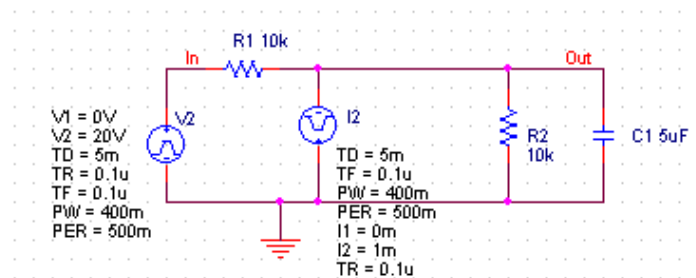

Figure 14: Circuit with a PULSE voltage and current source.
6. Instead of using a switch we can also use a voltage source that changes over time. This was done in Figure 14 where we used the VPULSE and IPULSE sources from the SOURCE Library. We entered the voltage levels (V1 and V2), the delay (TD), Rise and Fall Times, Pulse Width (PW) and the Period (PER). The values are indicated in the figure below. For details on these parameters click here. A description of other Spice elements can be found in the User's guide or in the Spice Tutorial. (<http://www.seas.upenn.edu/~jan/spice/>)